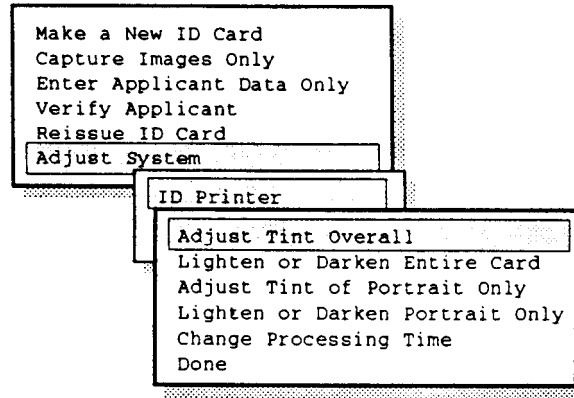

Figure 2-36 Exiting and saving new settings menu
12. To exit from this Color Printer System Settings program and save the normal settings you have just made, select **Done** and press **<Enter>** (Figure 2-36).